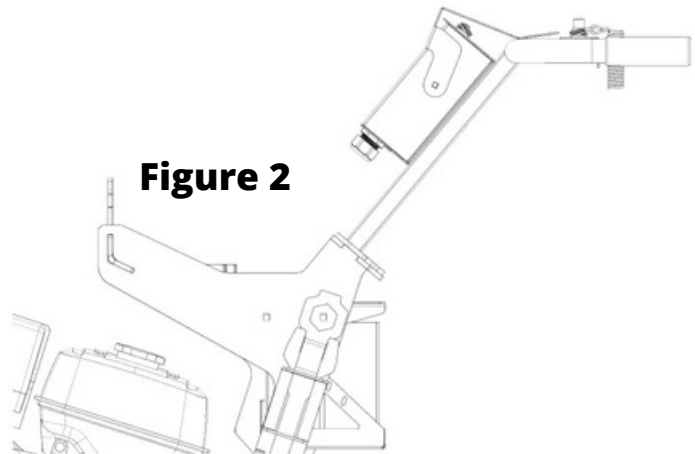

Figure 2
2. Once all bolts are removed, use 3 of the carriage bolts and nuts to secure the handle as shown in Fig 2. While positioning handle make sure the cord is not wrapped around the handle tube.